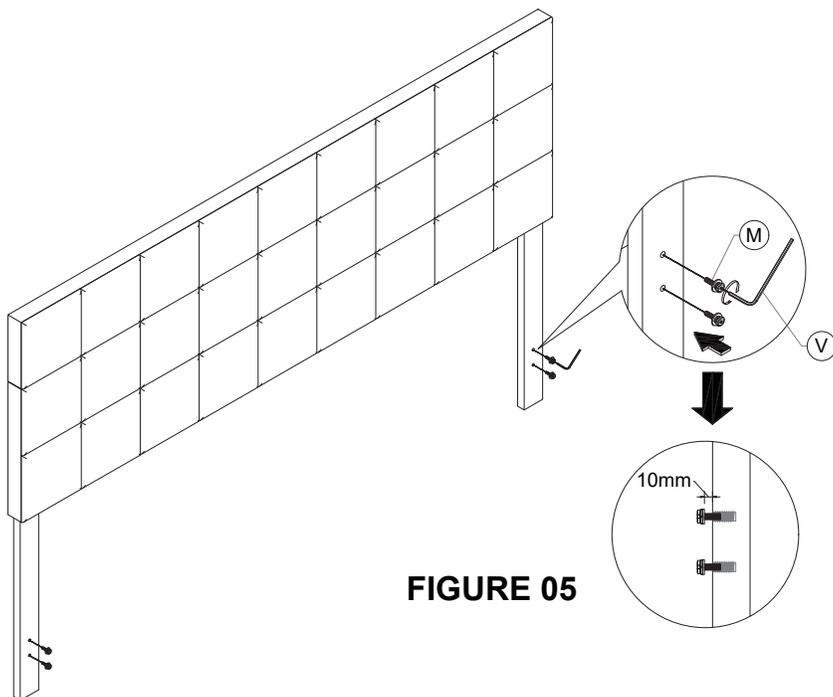

FIGURE 05
Insert set of the bolts (M) with lock washer, flat washer into the fixed nuts on the headboard by manually. NOTE: Do not fully tighten the bolts, leave at least 10mm visible so that you can hang hook on the bolts. See **FIGURE 05**.
REMARQUE : Ne serrez pas complètement les boulons, laissez au moins 10 mm visibles afin de pouvoir accrocher les boulons. Voir **FIGURE 05**.